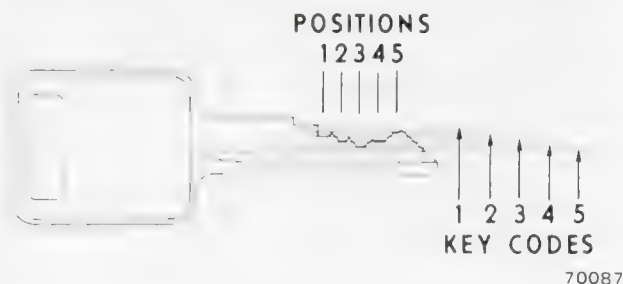

Fig. A-8 Key Coding Template
**NOTE:** The template shown in Figure A-8 may be used to determine the key biting code of a key for which the key code number is unknown.
If the ignition switch lock is defective and the key is available, the cylinder and individual tumblers can be ordered and matched to the existing key. To determine the tumbler arrangement, place the key over the template (fig. A-8). Starting with the number 1 position read across the visible line and record the first digit of the key code, continue this process for subsequent positions 2 through 5.